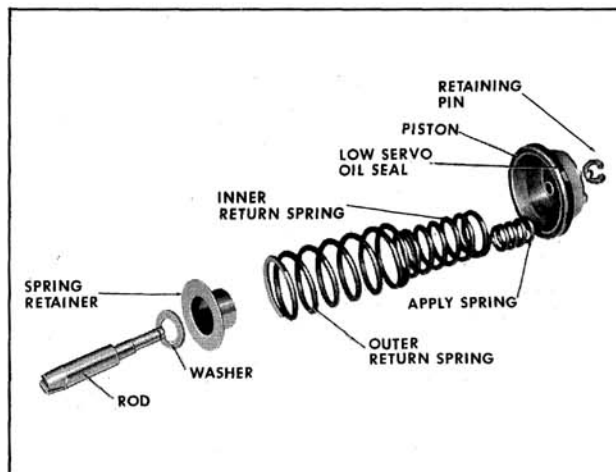
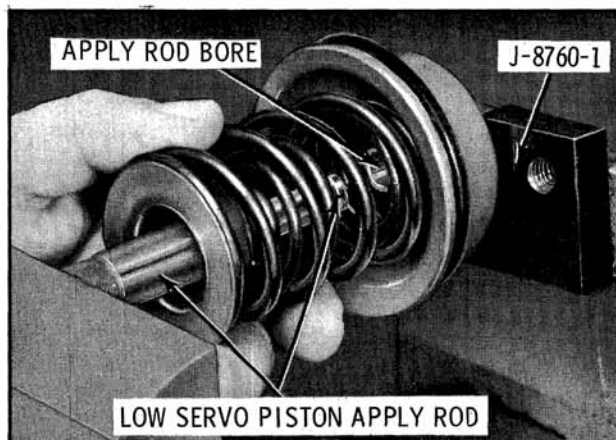

Fig. 6-404 Low Servo Piston Assembly (Exploded)
Fig. 6-405 Assembly of Low Servo Piston
3. After vise has been released, remove piston low servo supply piston inner spring, outer return springs, spring retainer, washer and piston apply rod. (Fig. 6-404)
1. Assemble the inner and outer return springs into the piston. Install spring retainer. (Fig. 6-404) Install this assembly into the vise as shown in Fig. 6-405.